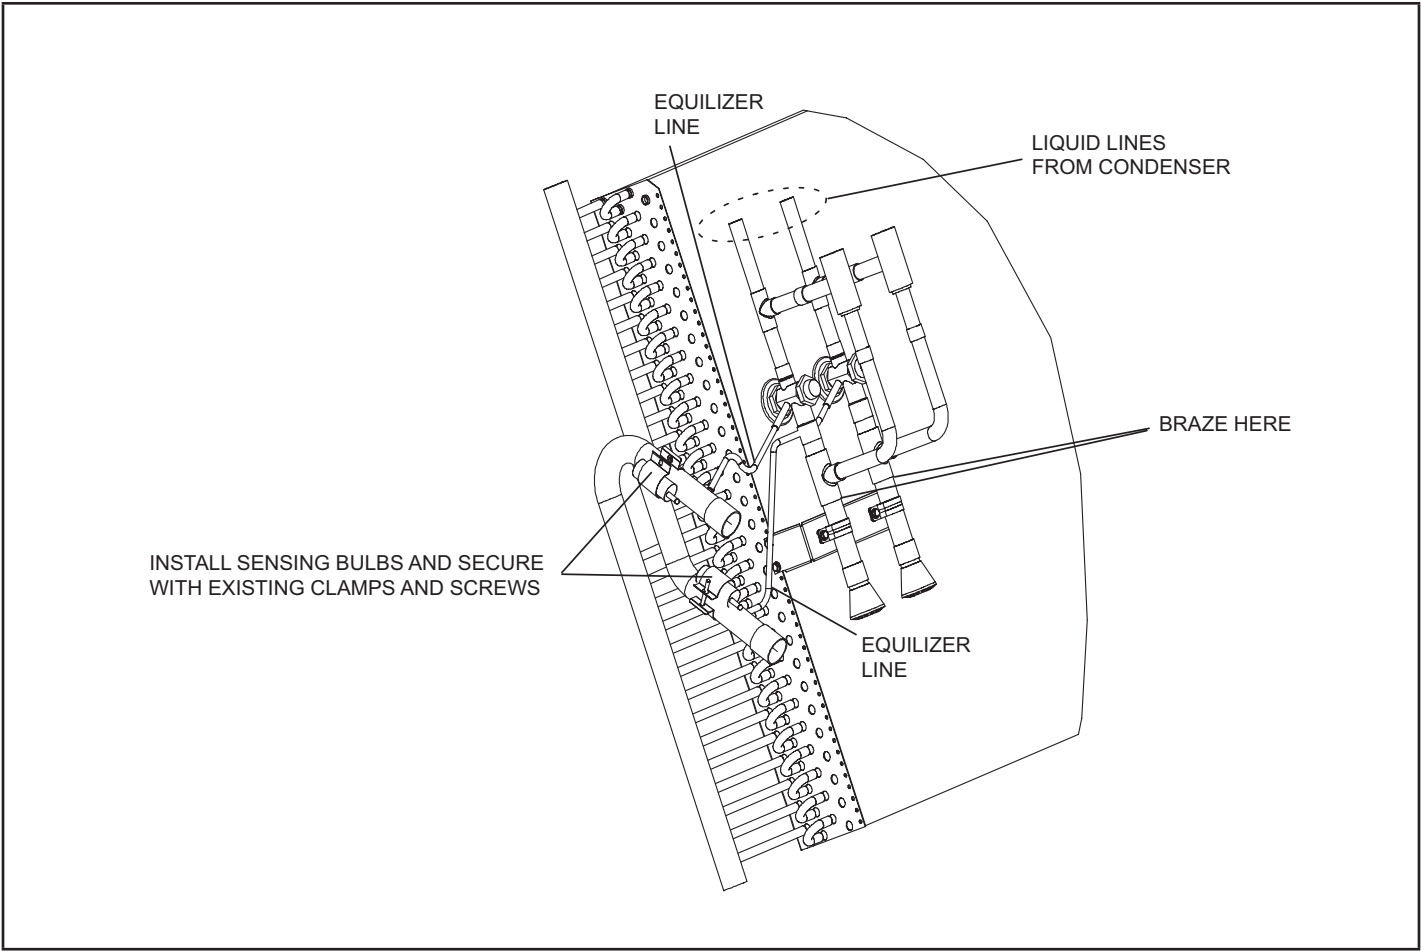

FIGURE 3. Installed Check Valve Kit
- 4 - Braze check valve assembly to coil as illustrated in Figure 3. Wrap both ends of TXV with a wet rag to protect the TXV internal components. Leave wet rags on TXV until the brazed connections have had time to cool down.